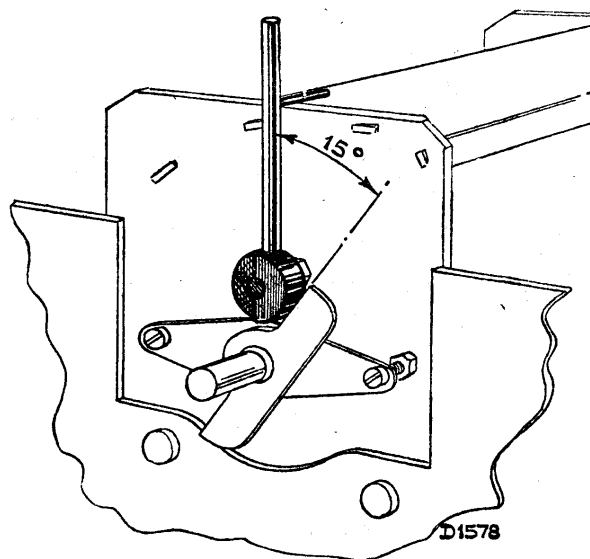

Fig. 5.
3. A 15° jig for determining the relation between condenser setting and scale (Fig. 5).
2. Fit 15° jig (Fig. 5) and set condenser to jig. (Minimum capacity.)